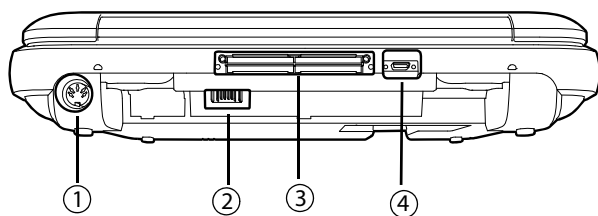

Figure 2-2 Back of the SonoSite Edge II Ultrasound System
The back of the system is shown in Figure 2-2.
- 1 Connect the DC power cable from the power supply to the connector on the system. Refer to Figure 2-2.